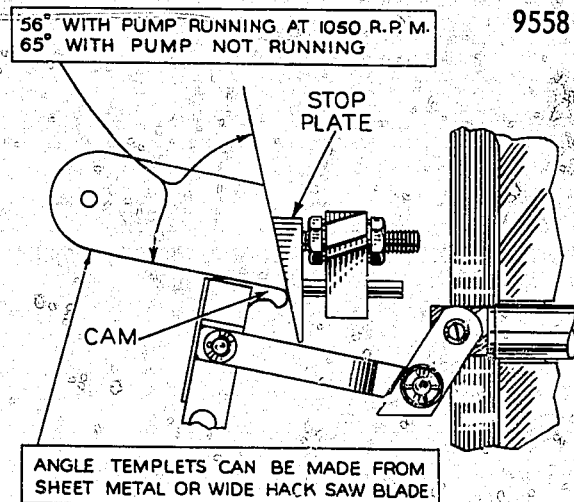

Figure 1.
12. After this setting has been made, stop test stand (pump now at zero RPM). Hold operating lever in full load position and the cam nose should now be at an angle of 65° to the stop plate. See Figure 1. Readjust to 65° if necessary and recheck fuel delivery at 1050 RPM. (See paragraph 5.)